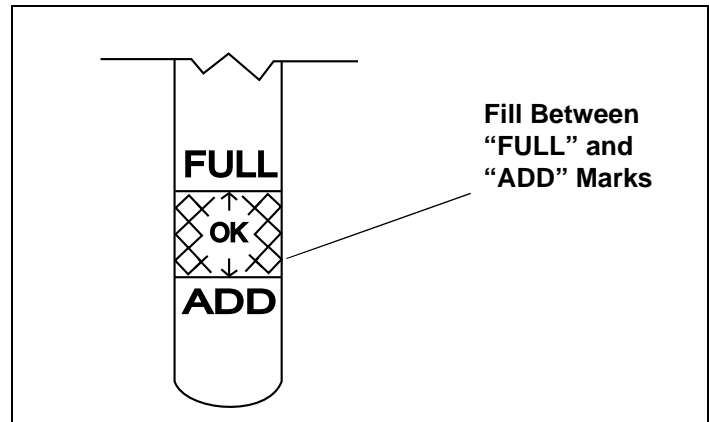

Figure 10. Engine Oil Level
- Keep oil level between “FULL” and “ADD” marks on dipstick or to point of overflow on engines without dipstick. See Figure 10.
4. Unscrew and remove oil fill dipstick from oil filler tube. Note oil level. If oil reading on dipstick is below “ADD” mark, slowly add oil to reach “FULL” level. See Figure 10.